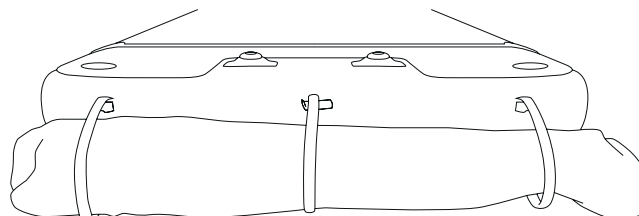
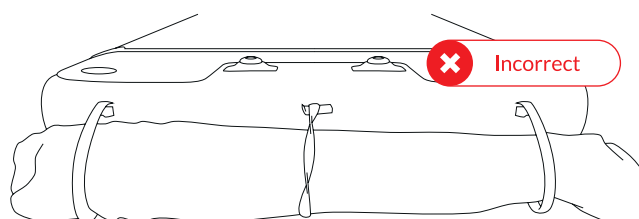

Fig 28 - Feed Air Toggle through loops
Fig 30 - Do not twist Air Toggle loop
2. Feed the deflated Air Toggle into the open Air Toggle loops (Fig 28) ensuring the Air Toggle loops aren't twisted (Fig 30).